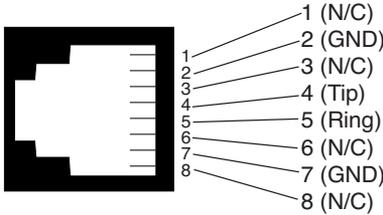

Figure 9. Model 1092RC twisted pair line interface.
1. The RJ-45 connector on the Model 1092RC's twisted pair interface is polarity insensitive and is wired for a two-wire interface. The signal/pin relationships are shown in Figure 9 below.